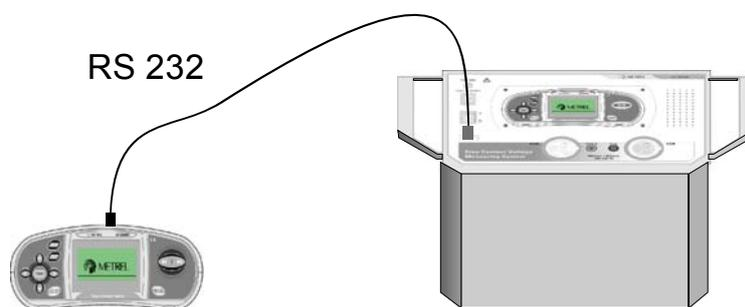

Figure 7.8: Connection of the instruments during synchronization
For connection of the instruments see *Figure 7.8*.
- ❑ To view stored earth resistance or specific earth resistance results on PC they must be downloaded to the Meter first. To download the results select Earth results in Synchronize menu. After the results are downloaded the stored data in the Station will be automatically deleted. For connection of the instruments see *Figure 7.8*.